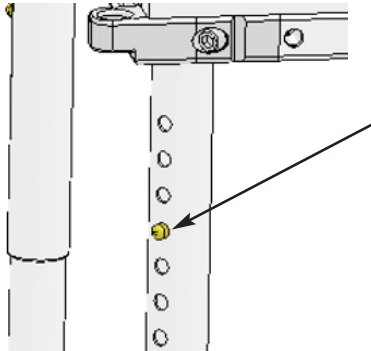

Figure 15
**A Leg Height Adjustment:** When making height adjustments to any of the legs, make sure that the brass buttons are fully engaged into the outer legs. If pushed too hard the button could become stuck inside the inner leg (Contact Nuprodx, Inc. if this occurs). Leg height adjustment should only be made before transferring the user into the chair (Refer to Figure 15).